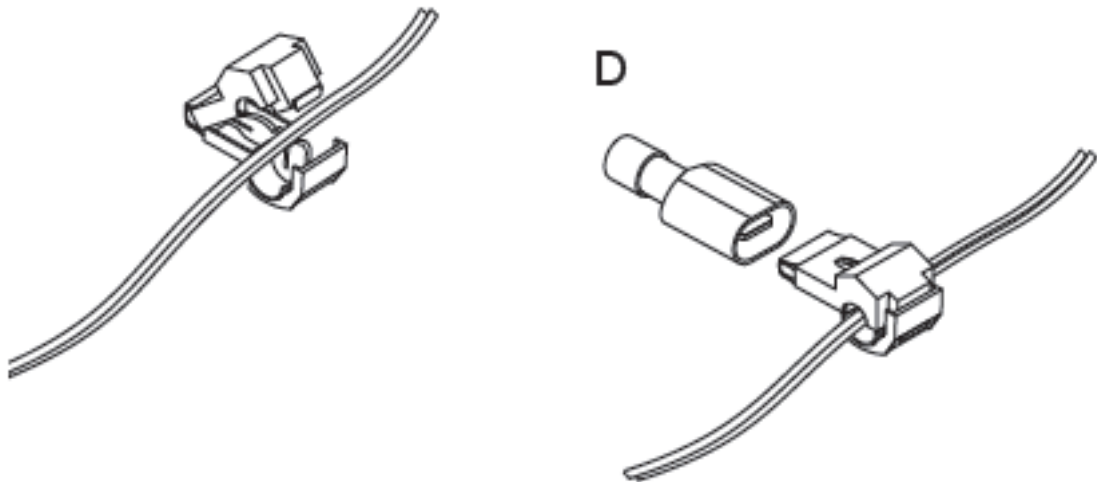

Figure 2: T-Tap connection to trigger wire
- Using a multi-meter or test light find the active high beam switching wire located on the back of the head light. Connect "Tee Tap" connector onto this wire, refer to figure 2
- Fit the switch wire to the "Tee Tap", strip 5mm of the insulation from the red wire (D) and crimp pink blade terminal to the end. Plug it into the "Tee Tap"